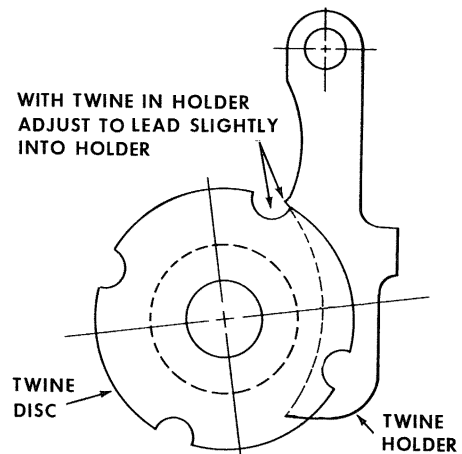
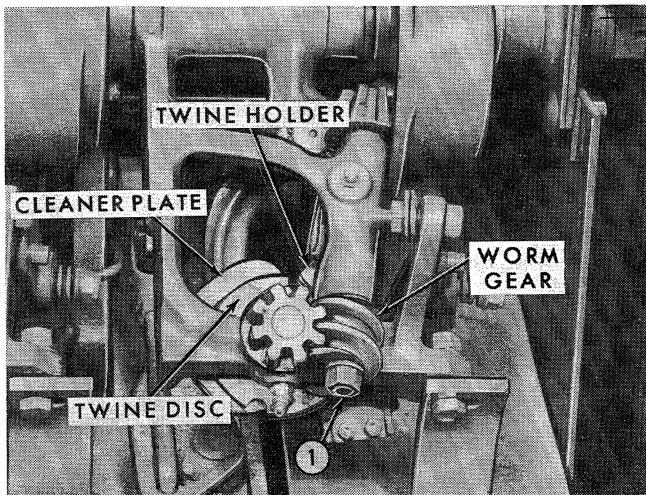

Figure 59
Figure 61
To receive the twine, the notches in the twine discs must be in proper relationship to the twine holder. The twine disc timing may be checked with or without twine in the twine holder. With twine in the holder the twine disc timing is correct if the right-hand edge of the notch in the disc leads slightly into the twine holder as shown in Figure 59.
Timing the twine disc must be checked with the twine in the holder, and after tying at least two knots. If the right-hand edge of the notch in the disc blends with the twine holder as shown in Figure 59, timing is correct. If necessary, the nut (1), Figure 61, and worm gear can be loosened, then rotated to advance or retard the disc. Tighten the nut to secure the worm gear in position.